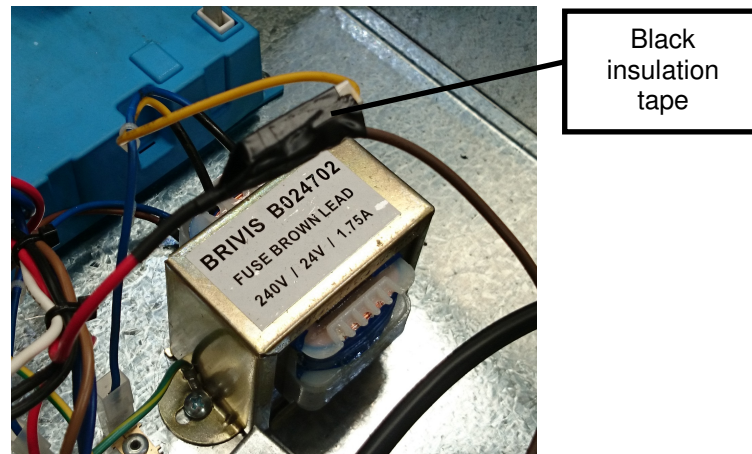

Figure 4
- 1.4 Insulate any exposed terminals on the connection made in step 1.3 with electrical tape. See **Figure 4**